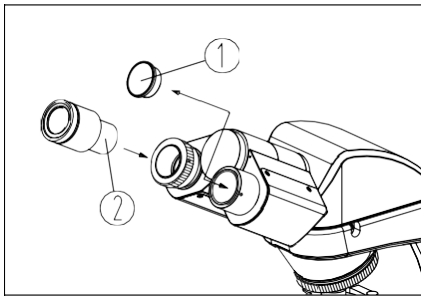

Fig.4
1. Remove the eyetube cover ①.
2. Insert the eyepiece ② into the eyetube. Ensure it is fully inserted (See Fig. 4).